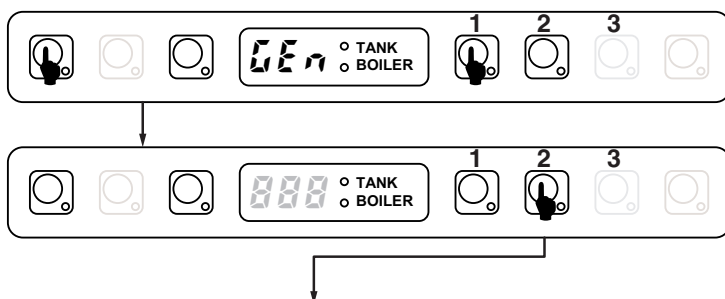

Fig. 9 Enter into User Mode (press for 5 sec).
- Enter into the USER SETTING mode by pressing and hold down ON/OFF and BUTTON\_1 keys for at least **five seconds** the display shows **GEN** (Figure 9);